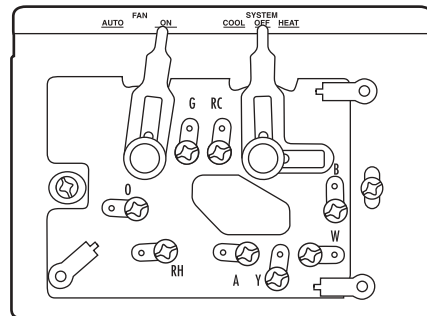

FIGURE 2 THERMOSTAT SUB-BASE
1. Pull wires through opening near center of sub-base and connect wires beneath terminal screws (See figure 2 for typical wiring for each application. Also refer to the following subsections for special system configurations).